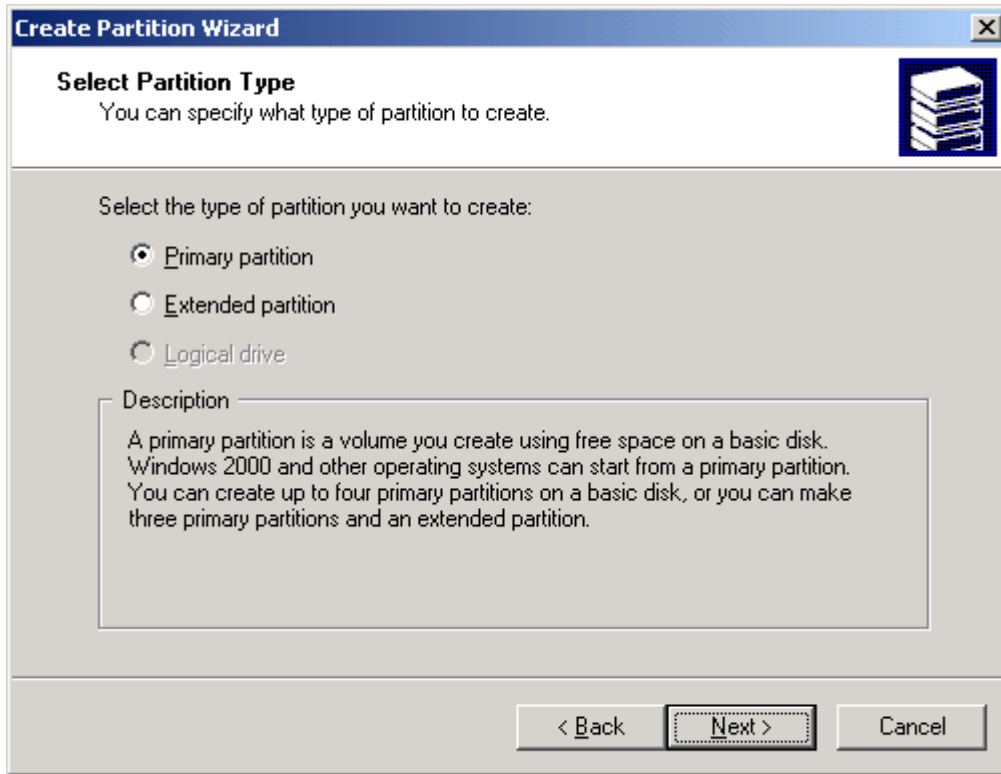

Figure 3.4 Create Partition Wizard Screen
To create and format partitions on the new disk devices (see Figure 3.4-Figure 3.11):
1. On the Disk Management main panel, select the unallocated area for the SCSI disk you want to partition, and select the **Create Partition** menu. A Select Partition Type wizard screen appears (see Figure 3.4). Select the desired type of partition, and click **Next**.